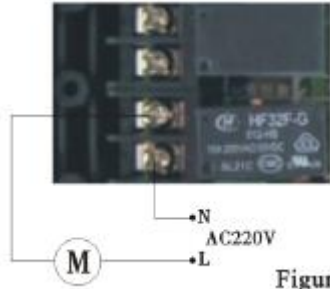
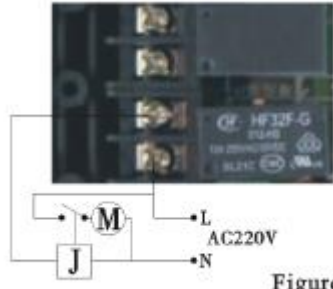

Figure 2
Figure 3
Before using, dial the switch on board to be: "ON". Connect wires as figure 2. All of connectors on board are passive switches. When it is closed, the indicator light on.
- ① Two valves are meter type. Set signal output mode to be “b-01” of each valve before put them as one in service one standby system.
- ② Dial the switch to be “1” to be “One in service one standby” program. The set will be saved even through power is shut-off.
- ③ “Relay N/O port” is the normal open port of the third black connector on controller, “N/O”, “COM” port.
- ④ “Solenoid valve on outlet” is the AC220V normal close solenoid valve on outlet.
- ⑤ If system need connect with booster pump, connect with the bottom left two connectors in figure 1. If pump current  $<5A$ , connect with controller directly (Figure 2); If current  $\geq 5A$ , it needs to connect with an AC relay (Figure 3).
⑤ If system need connect with booster pump, connect with the bottom left two connectors in figure 1. If pump current  $<5A$ , connect with controller directly (Figure 2); If current  $\geq 5A$ , it needs to connect with an AC relay (Figure 3).
For two in service one standby system as figure 2, connect transformer into AC100~240V/50~60Hz socket, dial switch on “ON” position, all indicators light on for 1 second, then enter work status. Check the system if has two in service one system function.